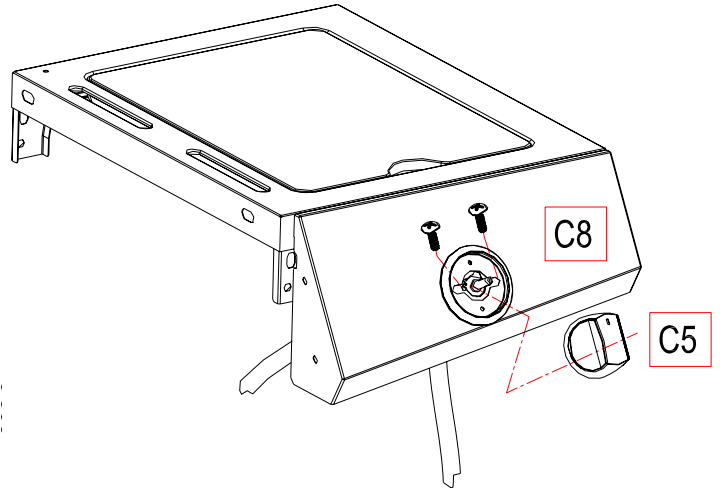

Fig 14b
2. Fix the valve on the Side Burner Panel (C8) using those 2pcs of screws. Put the Knob (C5) on the Side Burner Panel (C8) as fig 14b.